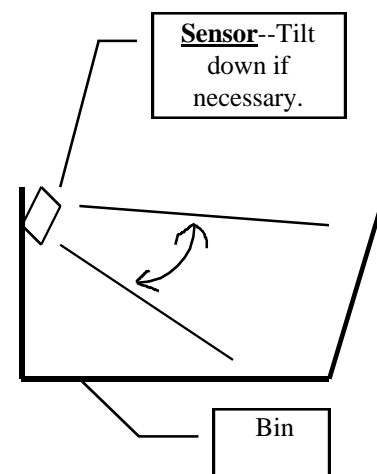

Figure 4: Side View of TSS Bin
3. Velcro the *sensors* to the desired position on the inside of the bins. **BE SURE** that the sensors are positioned in a manner such that movements other than hand motions *inside of the bin* will not be detected. Tilt the sensors downward in the bins if necessary (Figure 4).